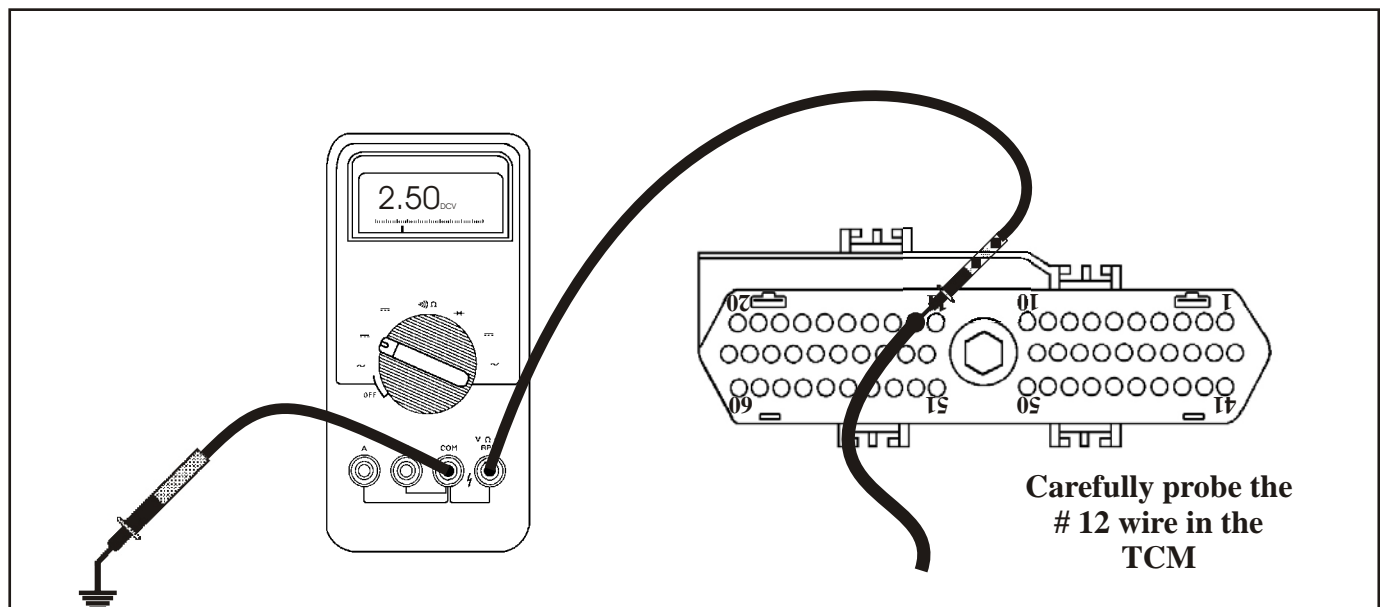

Figure 43
- Compare the TPS voltage seen through a scanner display to a volt meter attached to the number 12 TPS signal wire at the TCM (See Figure 43). With the engine off, place the ignition to the "ON" position. At closed throttle, approximately .50 to .78 volts should be observed. As the throttle is opened the voltage should increase proportionally. When wide open throttle is reached, approximately 3.8 to 4.0 volts should be seen. **NOTE: Both readings should be relatively the same however, the TPS voltage change observed through the scanner will be slightly delayed to that seen on the volt meter.** If the voltage change observed through the volt meter is correct while the scanner provides unusual and incorrect readings, the TCM will need to be replaced. If both the scanner and volt meter reveal a no volt reading, a fixed volt reading, an erratic or incorrect volt reading, go to the next step.